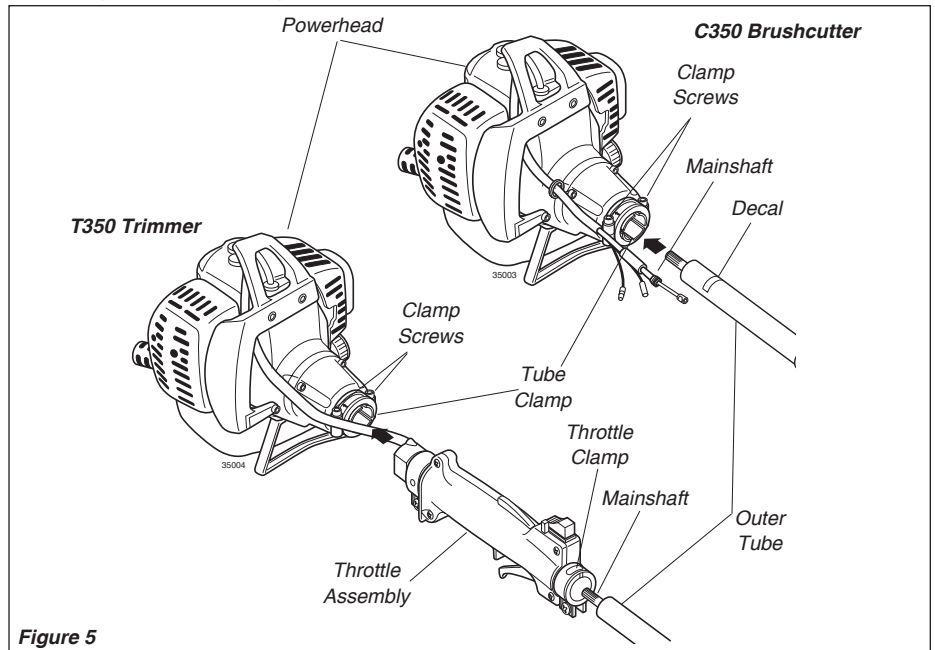

Figure 5
- Slide the outer tube assembly through the throttle assembly and into the powerhead tube clamp. See Figure 5.
- Slide the shaft tube assembly into the powerhead tube clamp. See Figure 5.